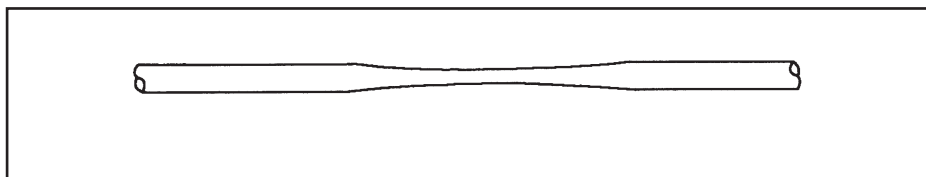

Figure 4.
- “Necking”, a stretched cable sheath. See Figure 4.